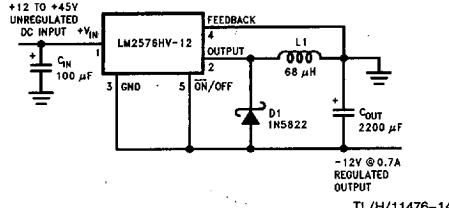

FIGURE 10. Inverting Buck-Boost Develops -12V
Figure 10 shows a LM2576-12 in a buck-boost configuration to generate a negative 12V output from a positive input voltage. This circuit bootstraps the regulator's ground pin to the negative output voltage, then by grounding the feedback pin, the regulator senses the inverted output voltage and regulates it to -12V.
**Note:** Complete circuit not shown (see Figure 10).